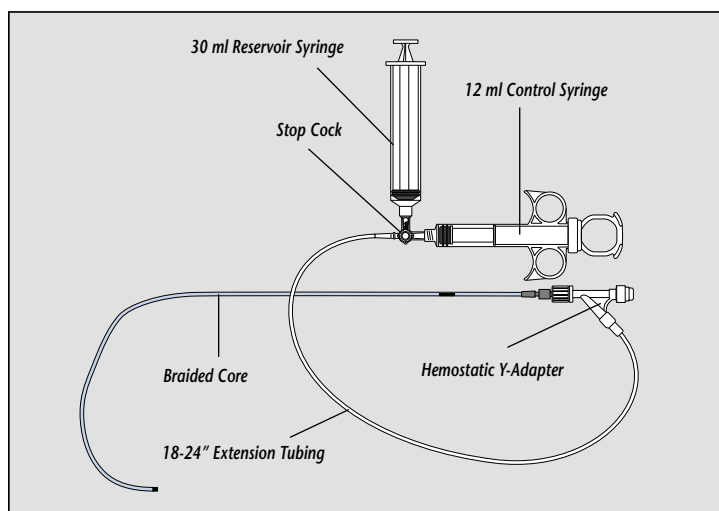

Figure 5 The braided core shown attached to a Y adapter with a hemostatic valve.
Step 5 Connect a hemostatic Y adapter to the hub of the braided core with an injection system attached (Figure 5). Remember, the braided core does not have a hemostatic valve. Connect the open side of the Y adapter to a contrast injection system. Close the hemostatic valve and flush the core flushed with either saline or contrast. The contrast/flush system shown in Figure 5 is assembled from materials readily available in the lab. It is composed of the hemostatic Y adapter, extension tubing 18 to 24 inches in length, a 3 way stop cock, a 30 ml reservoir syringe and a 12 ml control syringe.